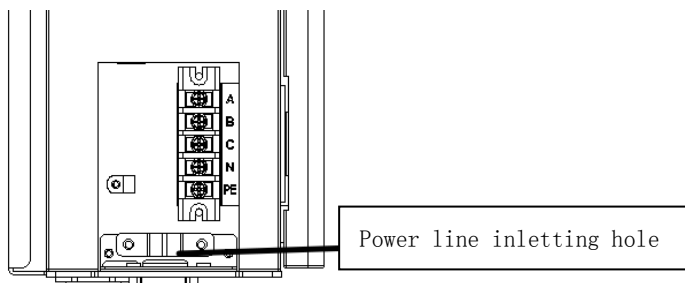

Figure 8.1 The input AC wiring line drawing of the charger
1、 22kW Three phase five wire mode input AC power supply: users need to remove the baffle cover of the junction box on the side of the charger and connect the cables of recommended specifications in chart 7.2.3 (A, B, C, N, PE) in turn according to the connection mark of the charger inlet, as shown in Figure 8.1 below.